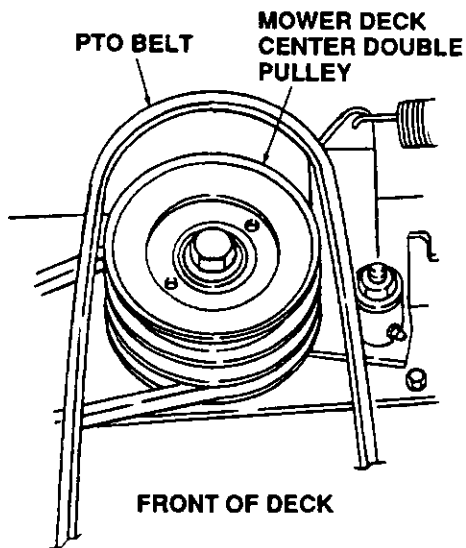

Figure 21
17. Install rearward end of the PTO belt on upper pulley of deck center double pulley. Ensure that the narrow side of belt engages the groove of the upper pulley. (Refer to Figure 21.)